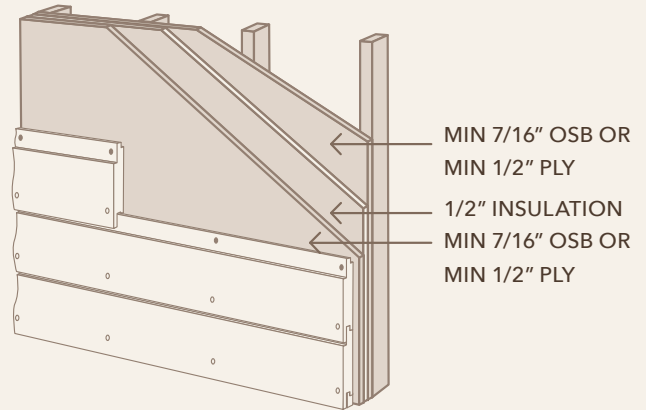

FIG. 3
- Continuous insulation up to 1/2" applied behind minimum 7/16" OSB or 1/2" plywood. (Fig. 3)